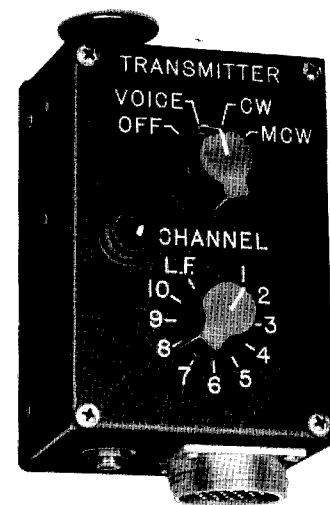

Figure 1-5. Type C-87/ART-13 Pilot's Control Unit
*a.* The channel upon which transmission is desired and the type of emission may be selected and controlled from either the Type T-47/ART-13 Transmitter panel, the Type C-87/ART-13 Pilot's Control Unit (*figure 1-5.*), the Type C-740/ART-13 Pilot's Control Unit (*figure 1-5A.*) or other remote control units.